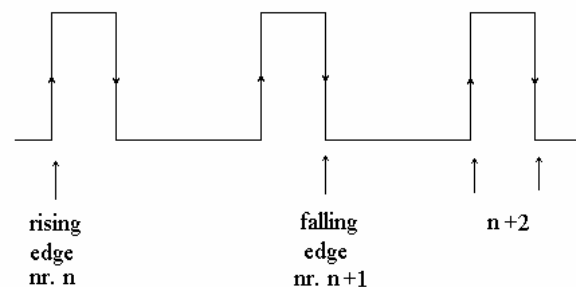

Fig. 1 Rising and falling edges of a signal
- a) sampling the signal and identifying the desired edge - fig. 1,